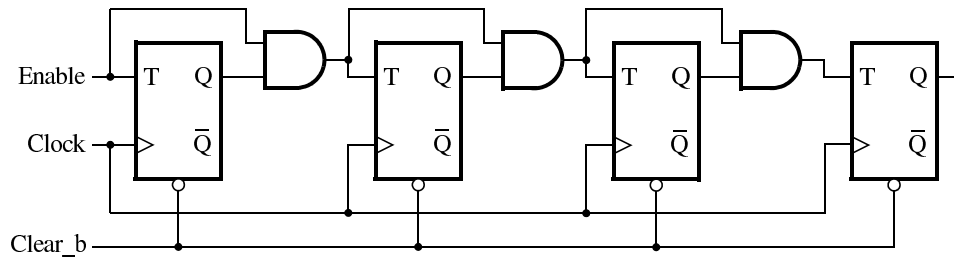

Figure 1: A 4-bit counter.
Consider the circuit in Figure 1. It is a 4-bit synchronous counter that uses four T-type flip-flops to implement a counter. The counter increments its value on each positive edge of the clock if the Enable signal is asserted. The counter is reset to 0 by setting the Clear_b signal low – it is an **active-low asynchronous** clear. You are to implement an 8-bit counter of this type.
1. Draw the schematic for an 8-bit counter using the same structure as shown in Figure 1. **(PRELAB)**
6. Use the Quartus II RTL Viewer to see how the Quartus II software synthesized your circuit. You can access the RTL viewer on Quartus via `Tools -> Netlist Viewers -> RTL Viewer`. You can zoom into the various building blocks of your circuit by double-clicking on them, to get more information about their implementation. What are the differences in comparison with Figure 1?